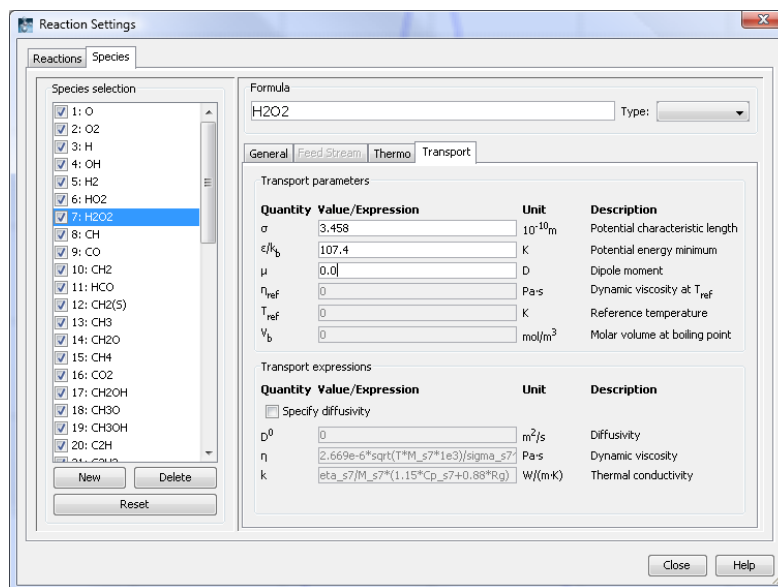

Figure 3-36: Species transport expressions along with the associated interaction potential parameters are given on the Transport page in the Species interface.
Each species in a transport file is associated with a data set of six parameters. From this file the Reaction Engineering Lab extracts the energy minimum of the Lennard-Jones potential well, ϵ/k_b (K), the Lennard-Jones characteristic collision length, σ (10^{-10} m), and the dipole moment of each species, μ (Debye). As illustrated in Figure 3-36, you find the imported values on the **Transport** page in the **Species** interface.